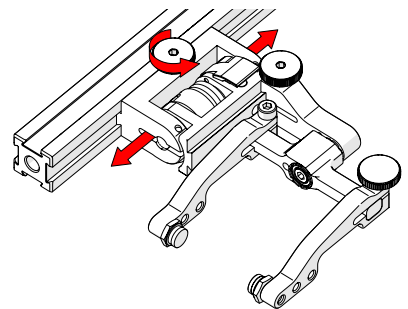

Fig. 44 - Adjust on frame bar
2. Use the probe holder adjustment knob to position the probe holder along the frame bar (Fig. 44).